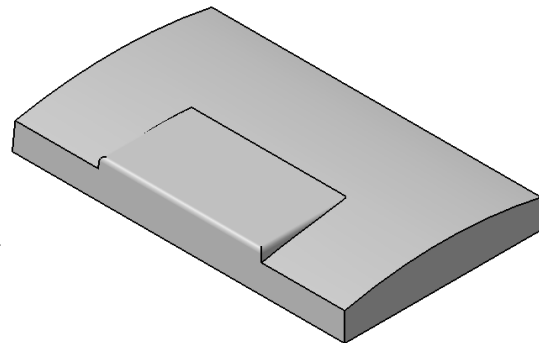

Figure 6-98 The model after filleting the first set of edges
3. Choose the **OK** button from the **Edge Fillet Definition** dialog box. The model, after filleting the first set of edges, is shown in Figure 6-98.